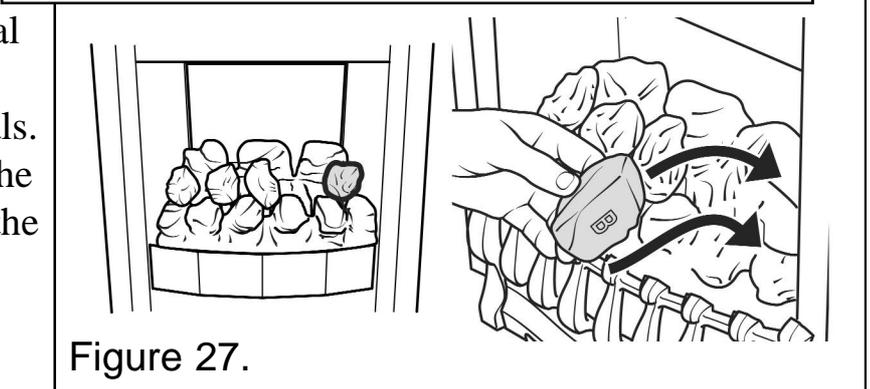

Figure 27.
6. Place the remaining type “B” coal at the right side of the firebox between the front and rear base coals. The letter “B” should be upright. The coal should touch the right side of the firebox. See figure 27.